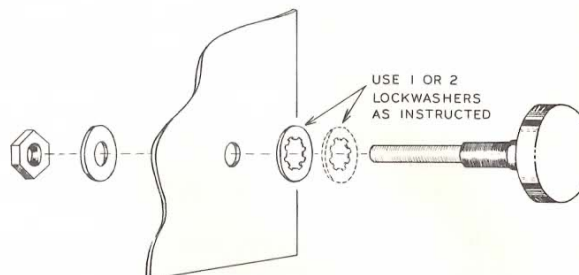

Figure 8
- (✓) Install a 100 K Ω control at M. Orient so that the lugs are toward the open side of the chassis. Refer to Figure 8 for control mounting details. Use a 3/8" lockwasher between the control and the chassis. Place a control washer under the 3/8"-32 nut used to secure the control.